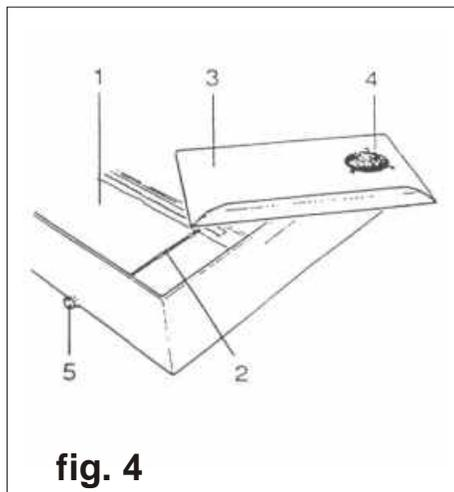

fig. 4
- Clean any machine part thoroughly, removing chips and other processing waste, in particular in the blade guide, in the clamp jaws and on the metal net (filter) (4 - fig. 4) of the cooling liquid tank cover (3).
- Remove the cover/filter (3 - fig. 4);
- Take a container with appropriate capacity and position it under the drain plug (5);
- Remove the drain plug (5) and let all the liquid in the container flow down;
- Pour the “virgin” liquid into the tank until it reaches the top. (2 - fig. 4);
- Reposition the cover/filter (3).